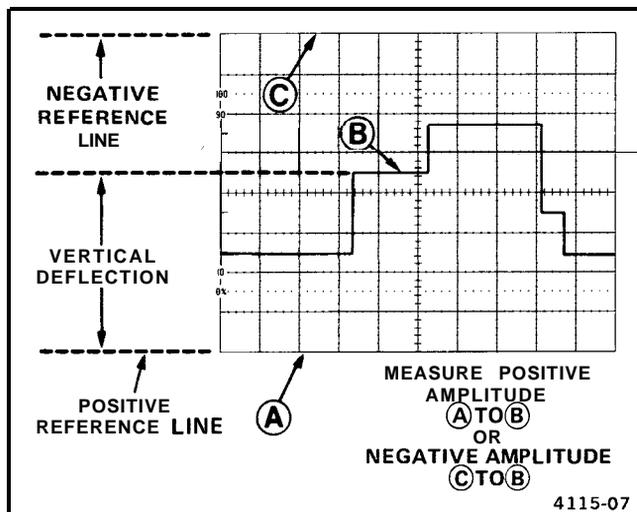

Figure 12. Instantaneous voltage measurement.
11. Measure the divisions of vertical deflection between the reference line and the desired point on the waveform at which the dc level is to be determined (see Figure 12).
EXAMPLE: The measured vertical deflection from the reference line is 4.6 divisions (see Figure 12), the waveform is above the reference line, the VOLTS/DIV switch is set to 2, and a 10X attenuator probe is being used.